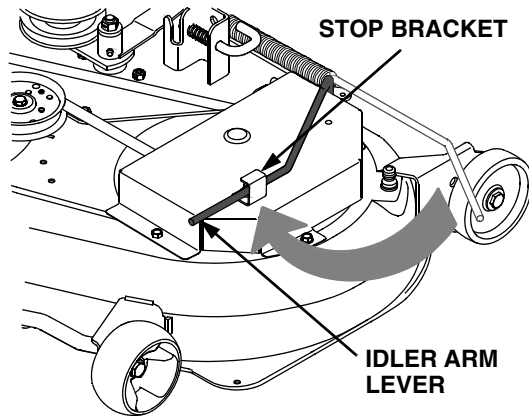

Figure 38
15. While holding the belt in position, rotate the deck idler arm lever into its stop bracket to tension the PTO belt (Refer to Figure 38). Make certain the PTO belt is properly positioned in the PTO clutch pulley and both lower front pulleys. Reposition if necessary.